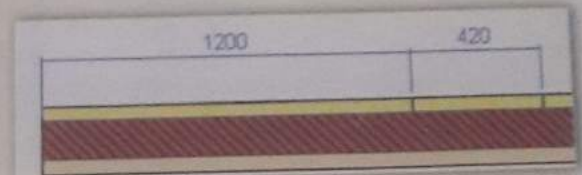

Figure 72: Split Region.
1. Select split region (the cursor will change to knife symbol) and split the exterior wall as shown in the figure (Figure 72).